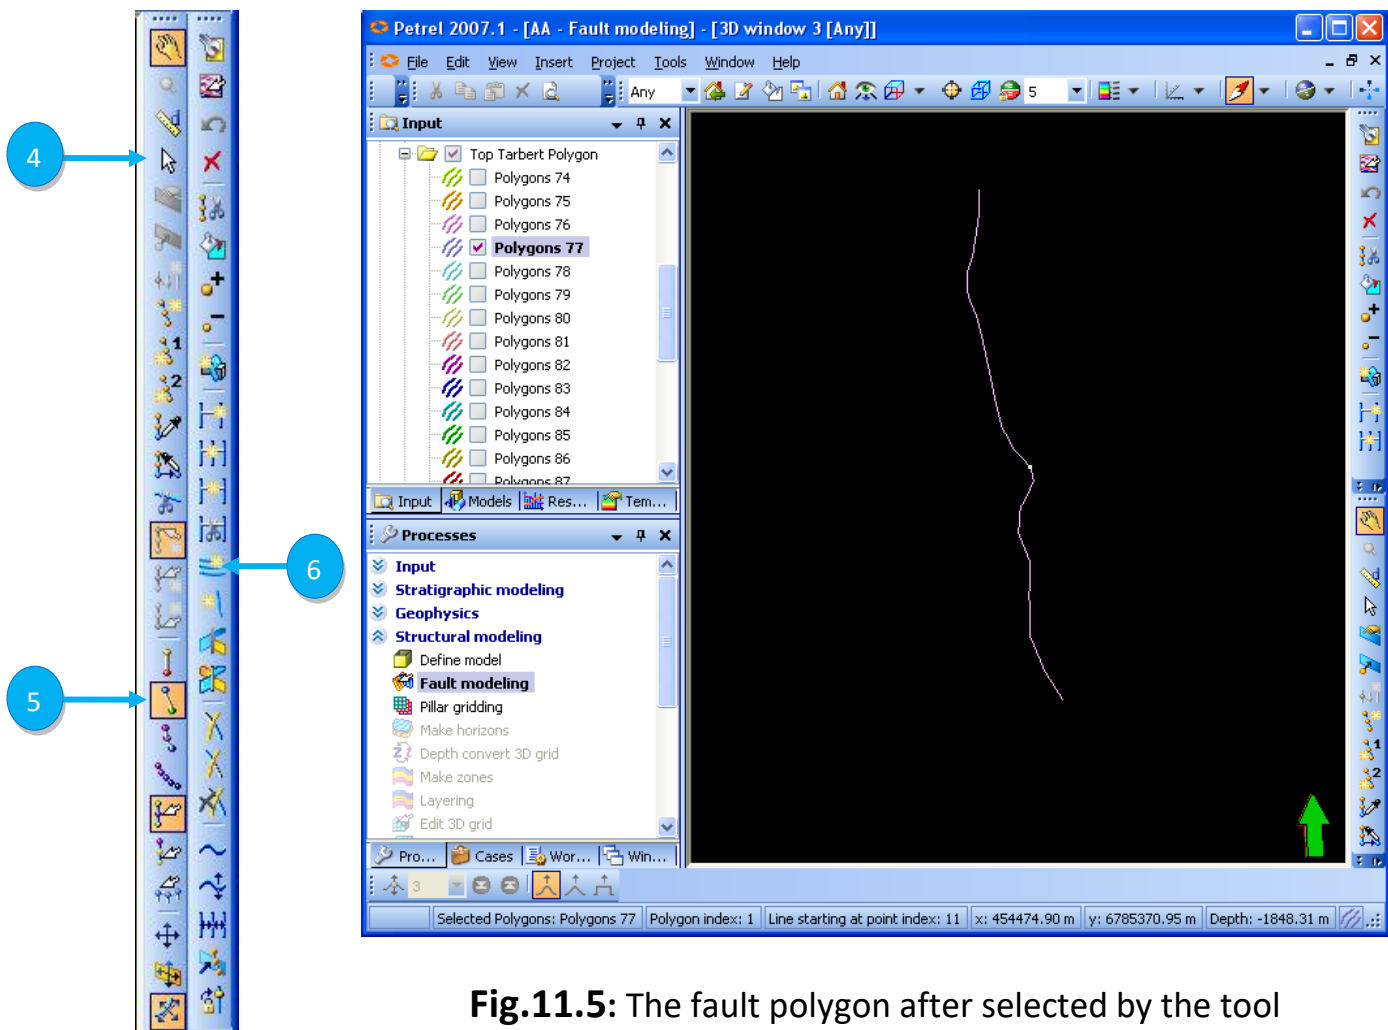
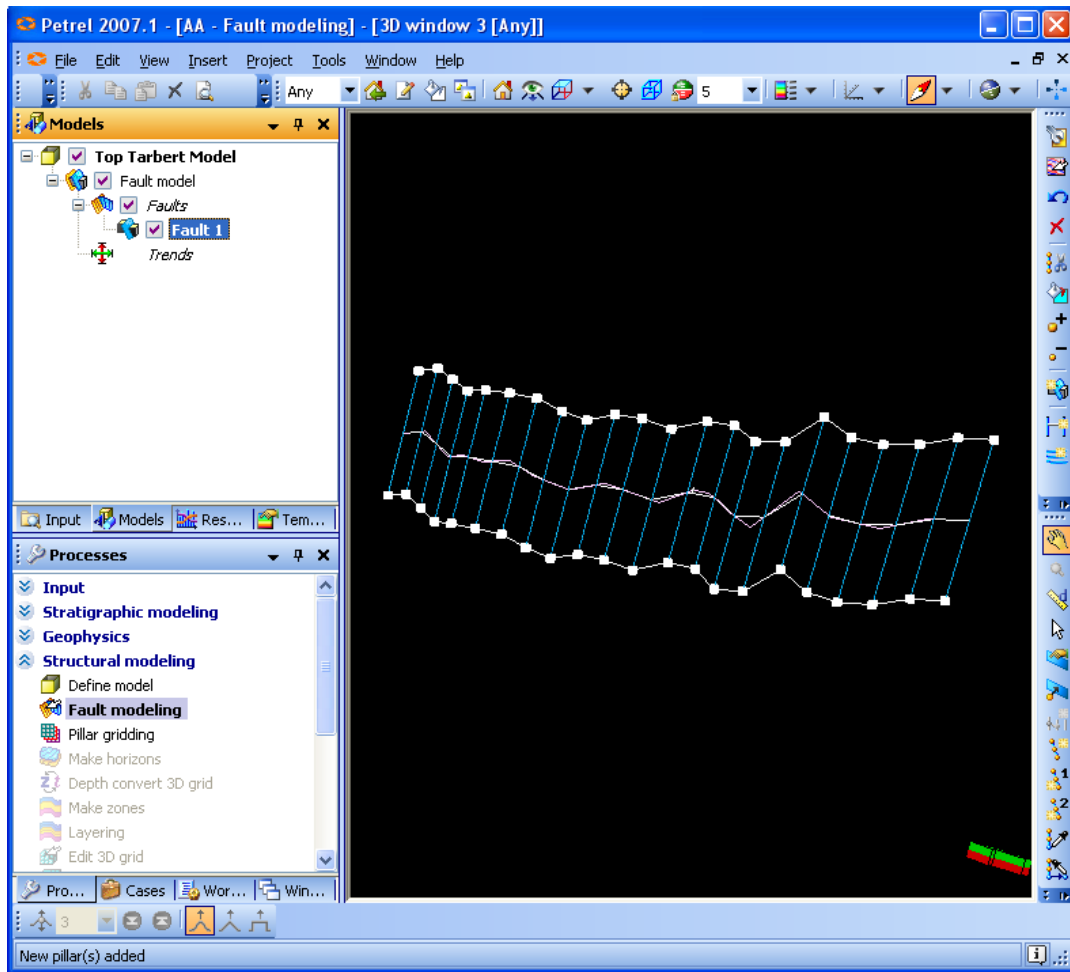

Fig.11.5: The fault polygon after selected by the tool
Fig. 11.6: Fault Polygons displayed in a 3D window after create faults from polygon
Notice: the color of fault polygon (purple) changed to (white) after you selected by it as shown in Fig.11.5 (to do this step press **Shift**).
6. Click on the **Create Faults from Fault Polygons** icon in the Function bar to generate Key Pillars along the selected polygons as shown in Fig.11.5. The new fault has been added under the **Faults** folder in the **Models Pane**, and is called “**Fault 1**” as shown in Fig.11.6.